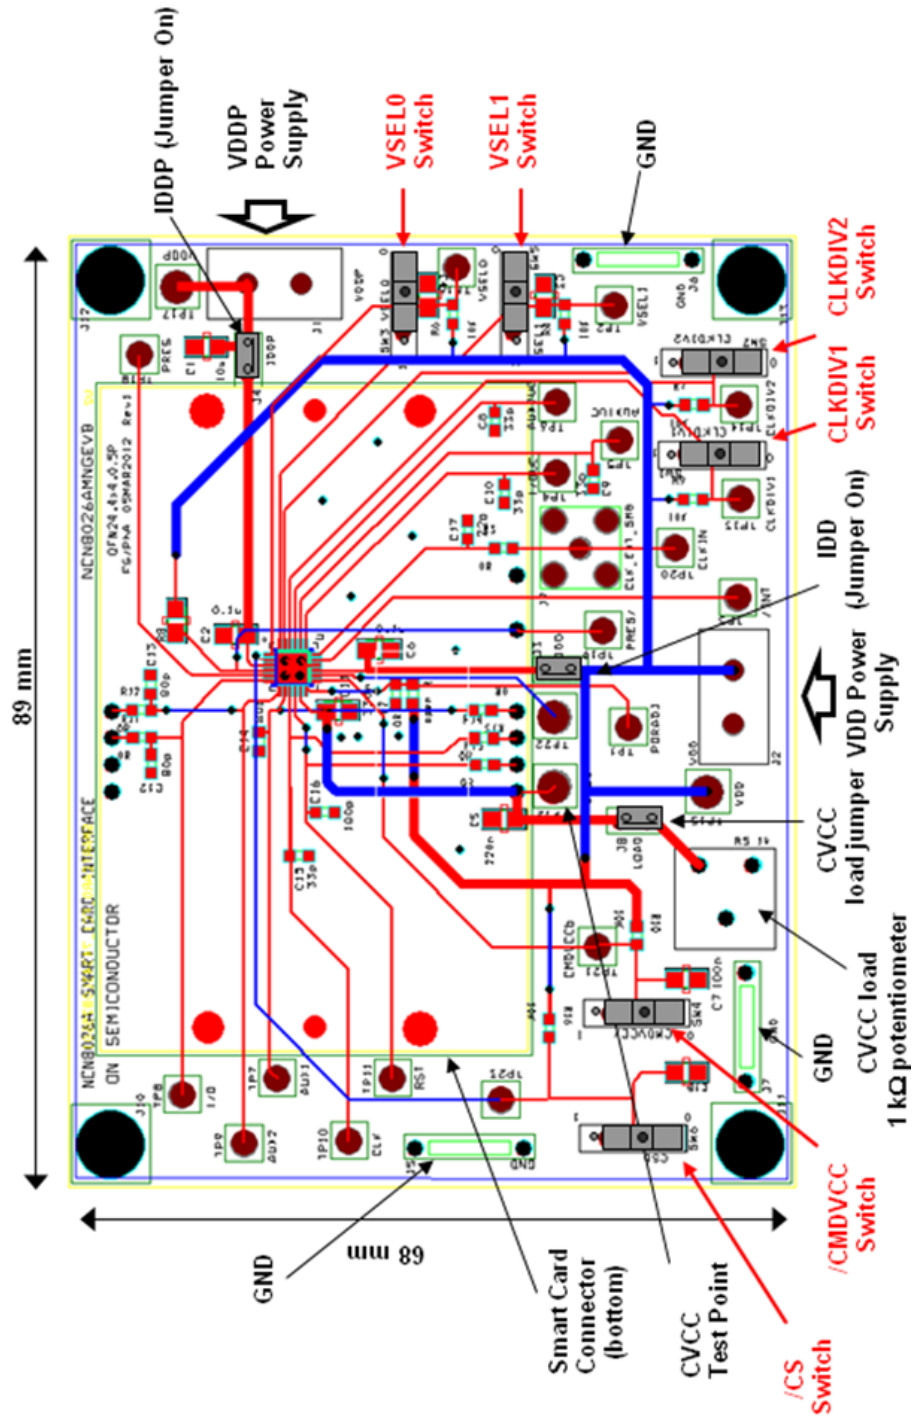

Figure 2. Board Description
Refer to Figure 2 for an overview of the main features of the evaluation board.
- VSEL0 and VSEL1 are used to change the output CVCC (card power supply) or the smart card interface mode which can be 1.8 V, 3.0 V or 5.0 V. Change VSEL0 and VSEL1 using the switches (see Figure 2) according to Table 2 below. When VSEL0 = 0 then VSEL1 is in the mode 5 V / 3 Vbar, when VSEL0=1 then VSEL1 is in the mode 1.8 V / 3 Vbar. The initial setup can be VSEL0 = 0 and VSEL1 = 1 for selecting the 5 V mode. The CVCC output voltage can be changed on the fly when the smart card interface is active (/CMDVCC = Low). Nevertheless, it is recommended to change CVCC after having deactivated the device then reconfiguring CVCC by setting the appropriate VSEL0 and VSEL1 and reactivating the smart card interface.